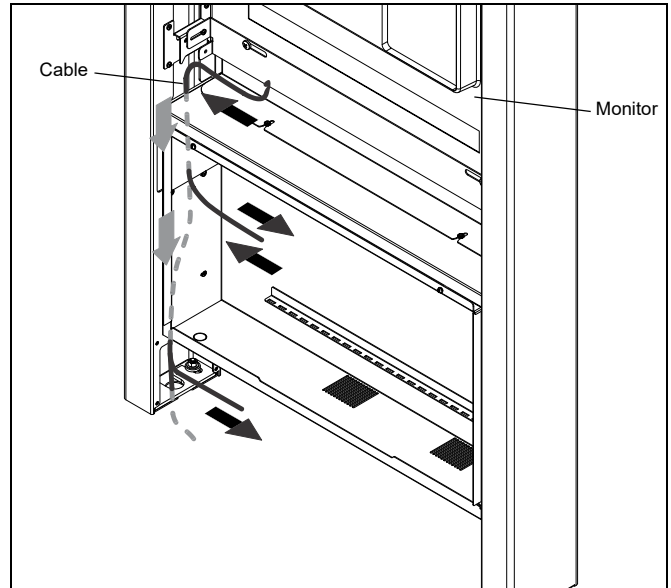

Figure 11
11. Route cables through sides of kiosk frame. Cables can be routed from the monitor to the enclosed storage area and/or out the bottom near the mounting locations. (See Figure 11)